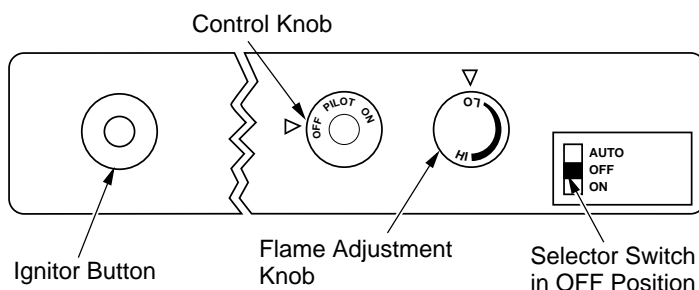

Figure 29 - Control Knob and Ignitor Button Location
4. Press in and turn control knob clockwise  to the OFF position (see Figure 29, page 20).
5. Wait five (5) minutes to clear out any gas. Then smell for gas, including near the floor. If you smell gas, STOP! Follow "B" in the safety information, starting in column 2, page 19. If you don't smell gas, go to the next step.
6. Press in and turn control knob counterclockwise to the PILOT position. Press in control knob for five (5) seconds (see Figure 29).